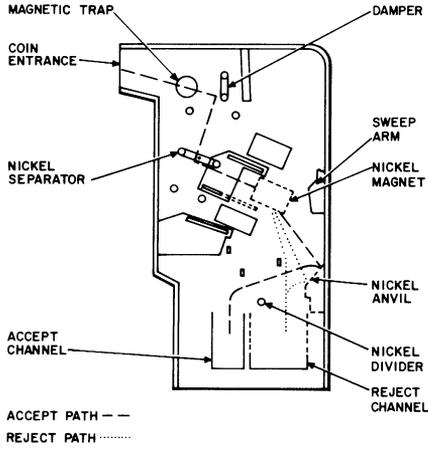

Fig. 2—Nickel Path in a Typical Coin Chute
2.01 *Nickel Operation—Valid Coin Accepted (Fig. 2).*
2.02 *Nickel Operation—Coin Rejected (Fig. 2).*